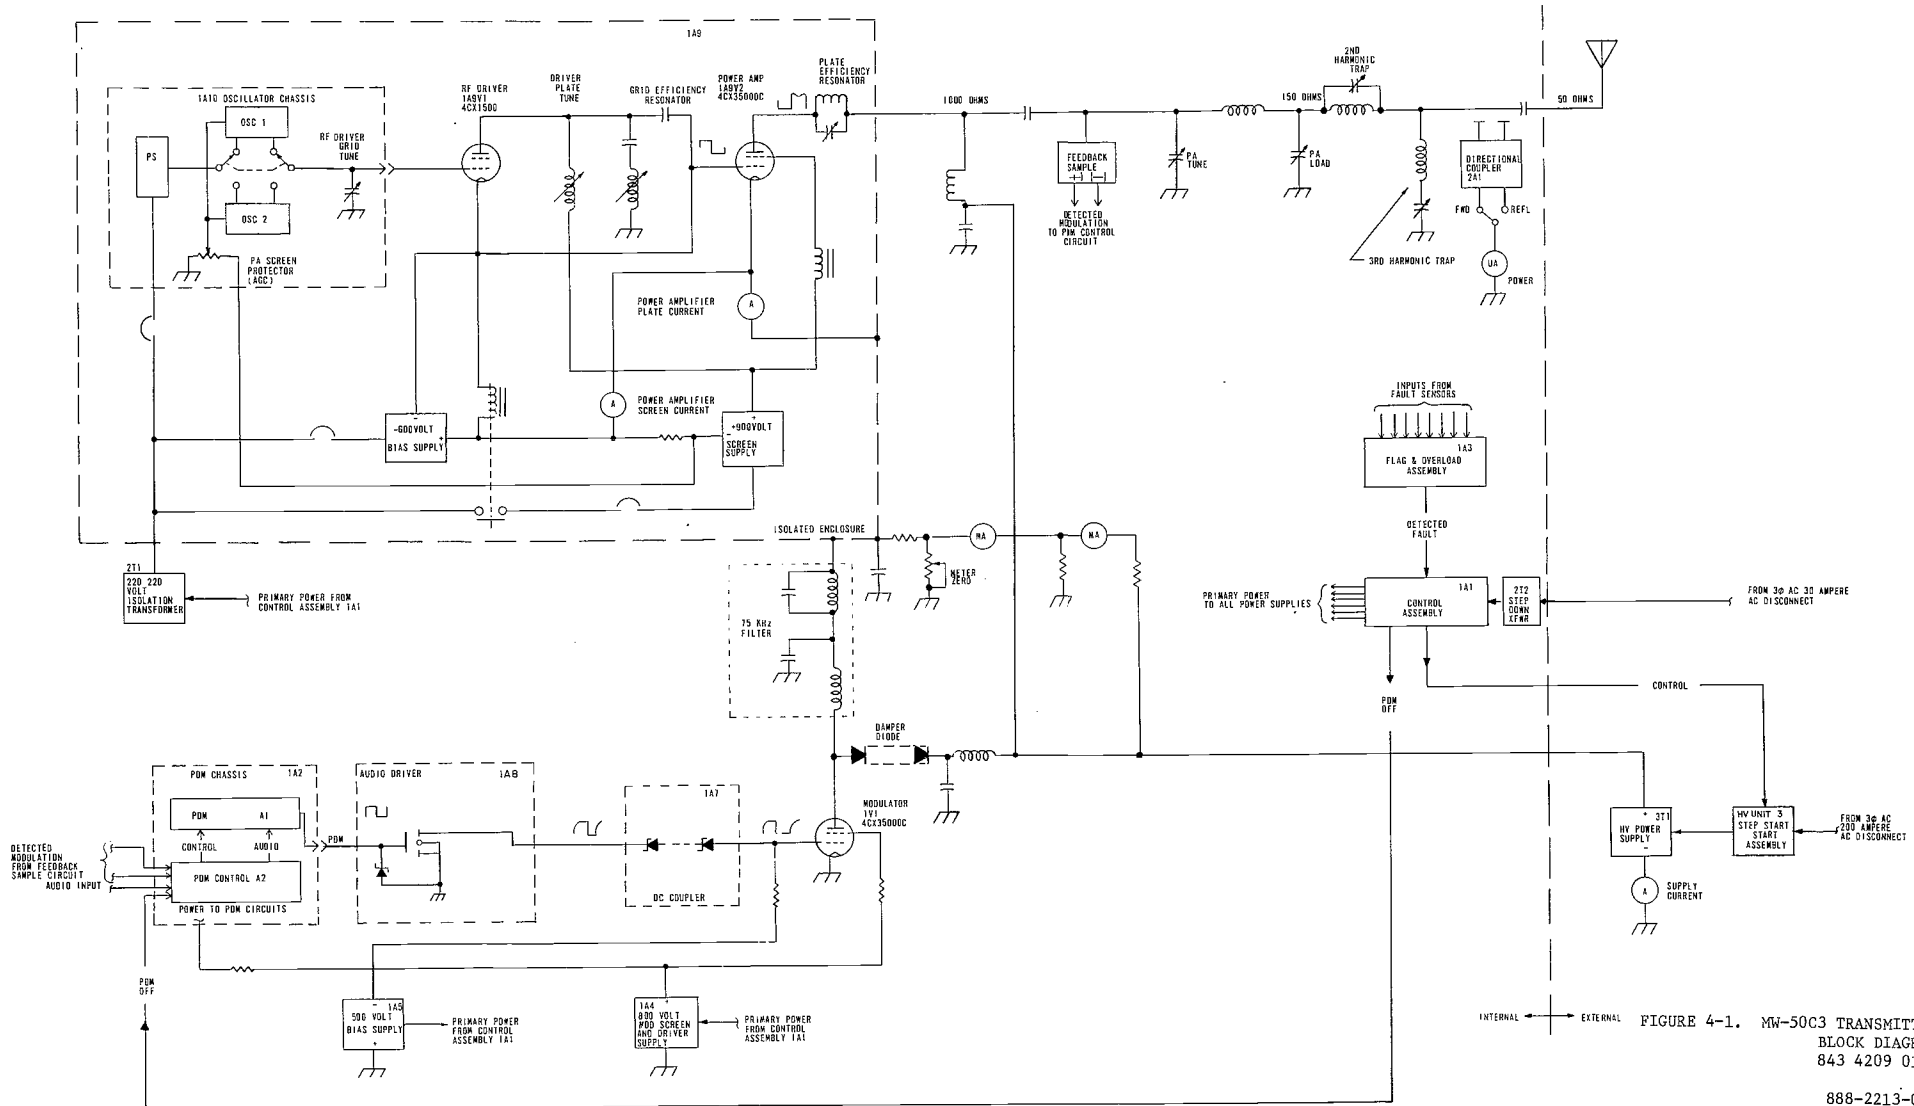

FIGURE 4-1. MW-50C3 TRANSMITTER
4-5. The RF Section consists of Oscillator Chassis 1A10, RF Driver 1A9V1 and plate Modulated Power Amplifier 1A9V2 (refer to figure 4-1). These three basic stages with associated power supplies and metering are contained in an Isolated Enclosure which operates above ground potential. This enclosure is at the cathode potential of the Power Amplifier or 15kV for carrier conditions and varies from near zero to full supply voltage during the modulation cycle. Access to the Isolated Enclosure is accomplished through an interlocked rear door or an interlocked front door.
4-7. RF DRIVER 1A9V1. The RF Driver consists of one 4CX1500A Tetrode Power Tube as shown in figure 4-1. The plate-to-cathode voltage of this tube is a summation of the Bias Supply and the Screen Supply voltages (1500 Vdc). The plate circuit of the RF Driver is tuned to both the fundamental carrier frequency and the 3rd harmonic of the carrier frequency. Tuning the plate circuit in this manner provides a near square wave pulse to drive the PA.
4-10. ISOLATED ENCLOSURE POWER SUPPLIES. Two power supplies are contained within the Isolated Enclosure (refer to figure 4-1). A 600 Vdc Bias Supply provides fixed grid bias to the Power Amplifier and a 900 Vdc Supply provides PA screen current. The two supplies are connected in series to provide 1500 Vdc for the RF Driver. Relay K1 is an under-voltage relay that prevents the PA Screen Supply from operating should the Bias Supply fail. The 230 Vac primary power for the Isolated Enclosure power supplies is furnished by isolation transformer 2T1.
4-11. OUTPUT NETWORK. The Output Network, as shown in figure 4-1, is a conventional double Pi circuit that matches the 1000-ohm PA Tube load to the 50-ohm Antenna System. The Power Amplifier is tuned by adjusting the plate tuning capacitor for a dip in PA plate current. The PA is loaded by adjustment of the PA loading control. The 2nd and 3rd harmonic traps are located at the end of the output network to provide adequate harmonic attenuation.
4-14. The Modulator Section uses a HARRIS CORPORATION Broadcast Transmission Division patented Pulse Duration Modulator (PDM). The PDM is unique in that it provides conventional plate modulation of an RF Power Amplifier Tube at an efficiency of approximately 90 percent, using no modulation transformer or reactor. Refer to figure 4-1 for the following discussion.
4-25. MW-50C3 PDM CIRCUITRY. The output of a 75 kHz Oscillator (refer to figures 4-1 and 4-4) is clipped to form a square wave and integrated to form a triangle waveform. This voltage (B) is summed with audio (A) at the input of a threshold amplifier (C). The output of the amplifier is a modulated pulse train (D) where amplitude changes in the audio input appear as duty cycle changes of constant amplitude rectangular waves.
4-27. PDM CIRCUIT. The PDM Chassis shown in figure 4-1, consists of a PDM board on a control and feedback board. The PDM generates the 75 kHz pulse trains which is modulated with the audio signal to provide pulse width modulation. The control and feedback circuit provides power control and overall feedback to reduce distortion. The output from the PDM is a pulse width modulated square wave that drives the Audio Driver Tube. The output from the Audio Driver Tube is offset by a string of Zener diodes and a dc coupler, which drive the Modulator Tube operating as a square wave amplifier. The plate of the Modulator Tube swings from the high-voltage power supply, approximately 25kV, to near ground potential at a 75 kHz rate with only the width of the pulse changing. The pulses are filtered and the dc and audio are left at the Isolated enclosure. The PA plate voltage is then equal to
4-28. DAMPER DIODE. The Solid-State Damper Diode Assembly is connected between the modulator plate and the positive side of the High-Voltage Power Supply (refer to figure 4-1). The Damper Diode conducts alternately with the Modulator, ON when Modulator is OFF and OFF when the Modulator conducts, at the 75 kHz rate. When the Modulator Tube suddenly stops conducting, current to the 75 kHz Filter cannot stop and voltage at the plate of the Modulator Tube increases towards infinity. When the voltage of the plate of the Modulator Tube attempts to go higher than the High-Voltage Power Supply potential, the Damper Diode conducts, eliminating high-surge voltage build up which could damage the modulation system. The alternating modulator/damper conduction provides a steady current load on the High-Voltage Power Supply. The damper current accounts for the difference in plate and supply currents, even though the PA and Modulator stages are connected in series.
4-31. The Control Circuits consists of Control Assembly 1A1 and High-Voltage Step/Start Assembly 3. Refer to figure 4-1 for the following discussion.
4-35. FAULT AND OVERLOAD ASSEMBLY 1A3. The Fault and Overload Assembly shown in figure 4-1, receives status information from various sensors throughout the transmitter. The circuit monitors transmitter operation, provides visual indications of where a fault or overload occurred and initiates action to turn off high voltage and shut down the transmitter if a fault is detected. Parameters monitored include (1) VSWR, (2) high-voltage current, (3) arcs in the PA circuit, (4) output circuit arcs, (5) Modulator Screen current, (6) arcs at 75 kHz Filter gaps, and (7) arcs across Plate Efficiency Resonator gap.